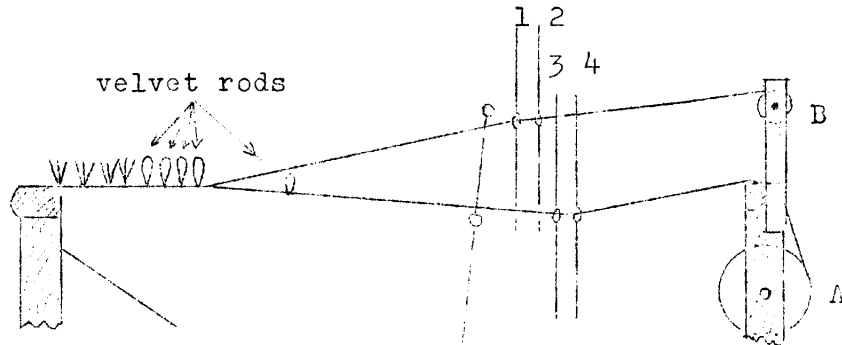

Fig.2
Fig.2 shows the process of making velvet. The ground is on the standard warp beam (A) and is threaded on frames 3 and 4. The pile warp is mounted on the additional warp beam (or beams) (B), and is threaded through frames 1 and 2. The ground is woven in the usual way. When we make a row of pile, the ground frames (3 and 4) are lowered, and the pile frames (1 and 2) are raised. In the shed thus formed we insert one of the velvet rods. Now: the ground warp is quite tight, while the pile warp is very loose. Therefore when we change the shed, the rod will remain entirely above the level of the ground warp, and the pile warp will go around the rod. We leave the rod there, and weave the ground for awhile (usually 3 to 5 shots), then repeat the operation, insert a second rod, weave the ground, insert a third rod, and so on until all rods are used up. Then we take a razor blade and cut the pile on the first rod, which has a groove in its upper edge. This releases the rod, and we use it in the next pile shed. We never cut more than one row of pile at a time, except at the end of the project.